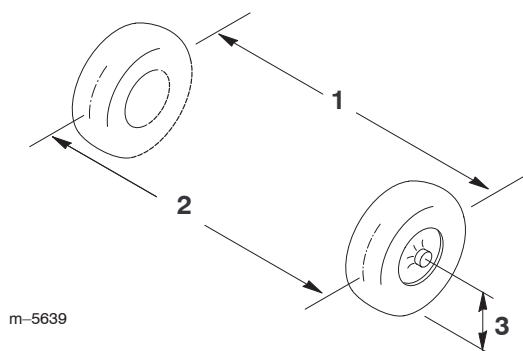

Figure 50
2. Measure the distance between both of the front tires at the axle height at both the front and rear of the front tires (Fig. 50).